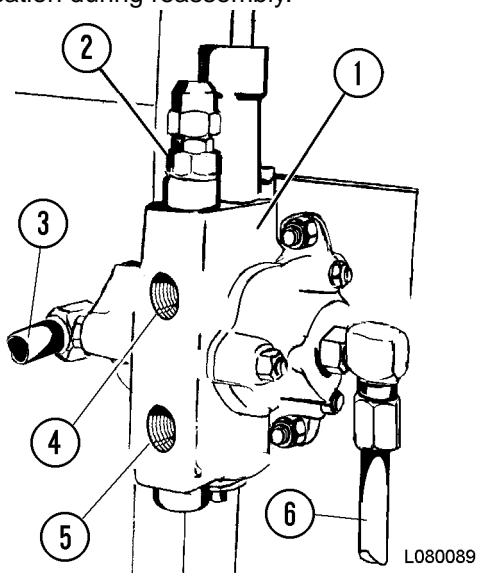
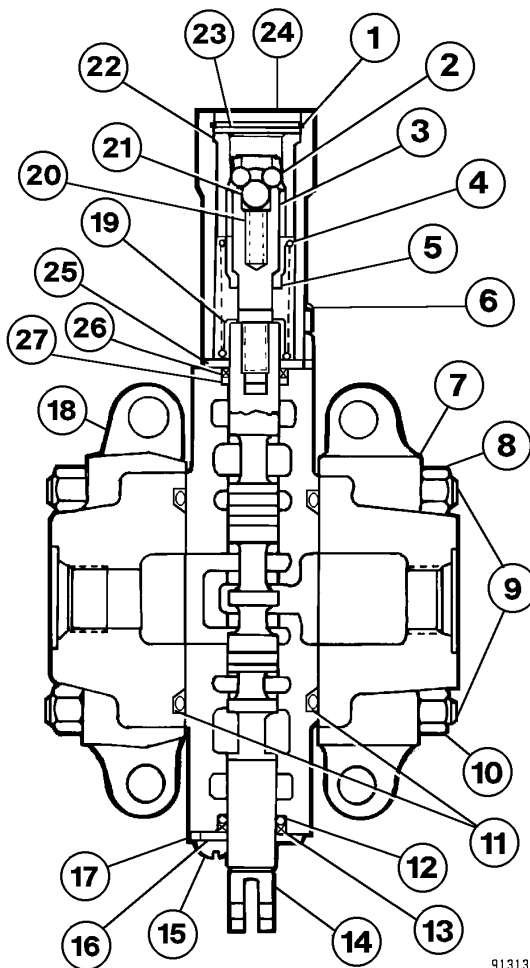

FIGURE 50-31. RELIEF VALVE
FIGURE 50-32. HOIST PILOT VALVE
2. Remove machine screw (15, Figure 50-32), seal plate (16), wiper (13) and O-ring (12).
3. Remove snap ring (1), capscrews (6), cap (24), spacer (23), and detent sleeve (22). Detent balls (2) and (21) will fall free when the cap and detent sleeve are removed. Separate cap (24), spacer (23) and detent sleeve (22).
4. Carefully slide spool (14) out of spool housing (17). Remove seal retainer (25), wiper (26) and O-ring (27) from the spool.
5. Insert a rod in the cross holes of detent pin (3) and unscrew it from spool (14). Exert slight pressure against the detent pin as it disengages and spring tension is released.
6. Remove spring seats (19), spring (4) and spacer (5).
7. Remove relief valve (2, Figure 50-31) from spool housing (1).
9. Remove nuts (8) and (10, Figure 50-32) and remove tie rods (9). Separate the valve housings. Remove O-ring (11). Remove the poppet check and spring (located on the outlet housing side of the spool housing) from the spool housing.